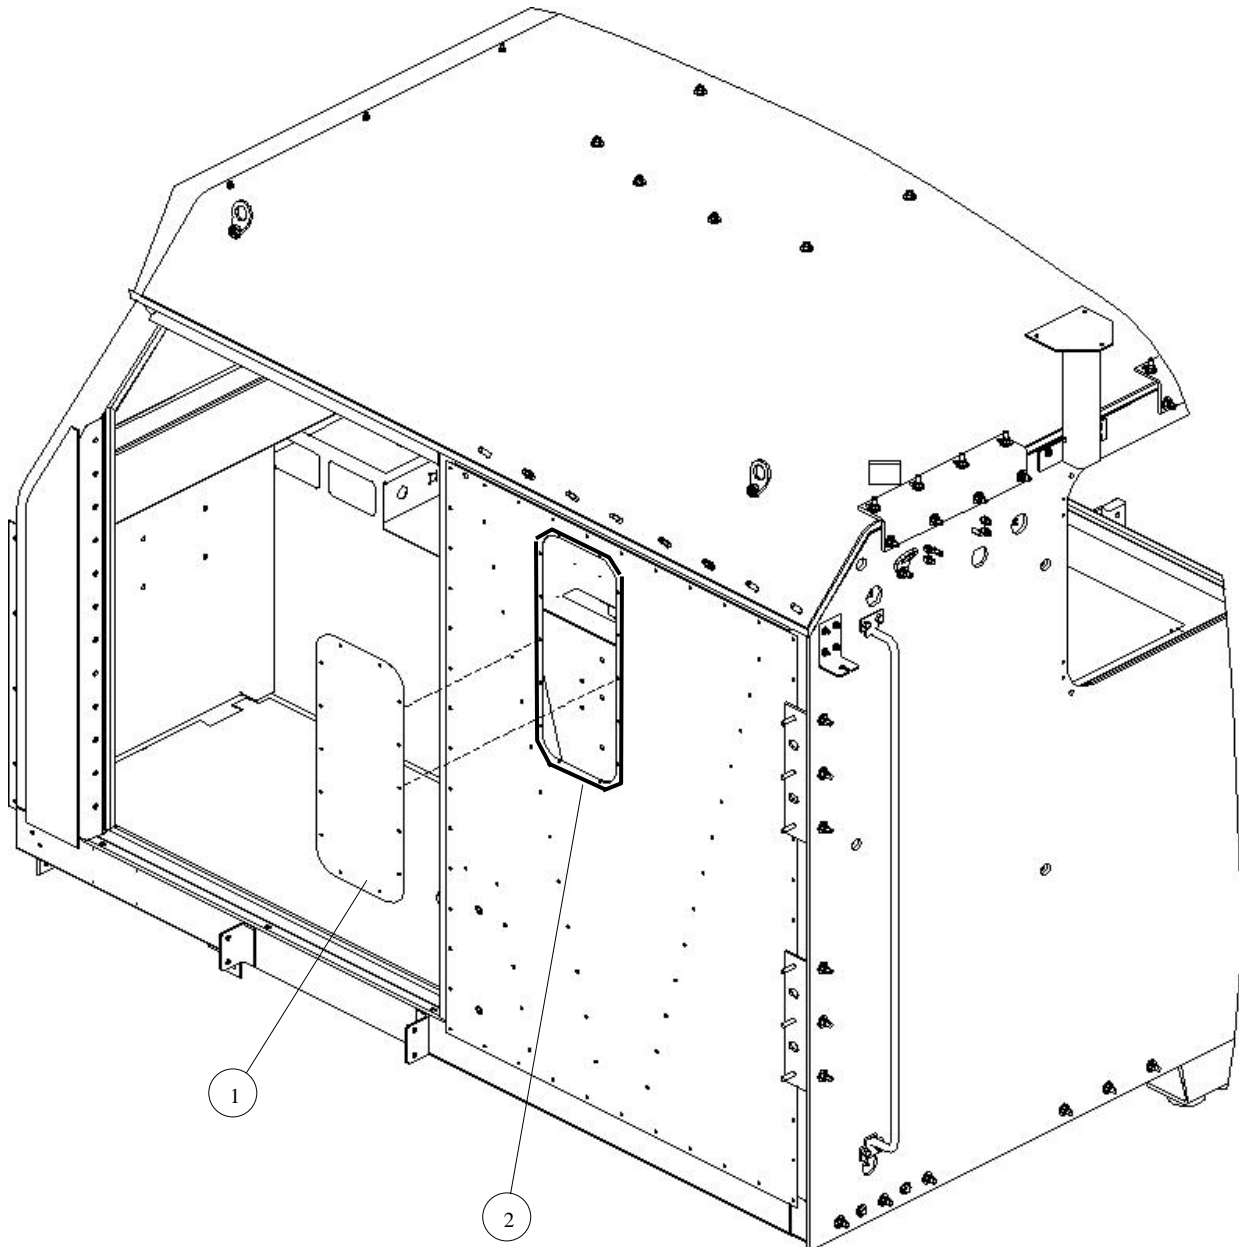

Figure 3-18. Left Side Window Cover Installation.
1. Install left window cover as follows (see Figure 3-18):
- a. Apply a bead of black urethane sealant (2) around perimeter of left side window opening.
- b. Install window cover (1) using original hardware (Retained from Teardown, Chapter 2).